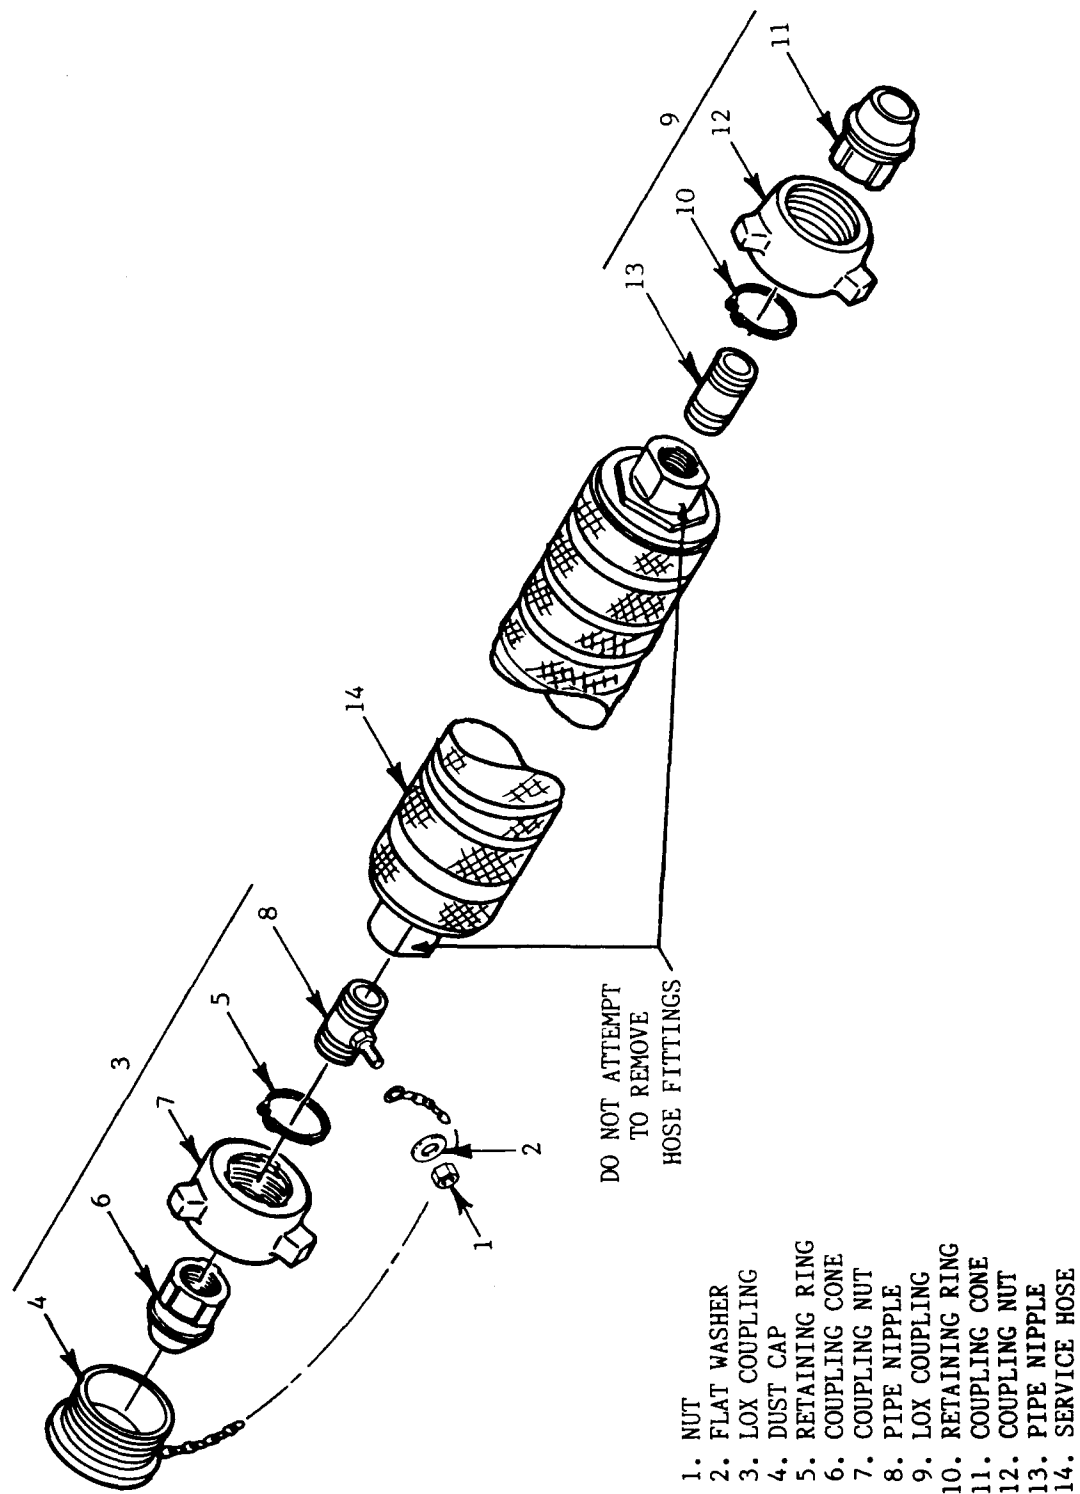

Figure 3-2. Service Hose and Components.
3-2.2.2 Service Hose (SH) and Hardware Disassembly (See Figure 3-2). The service hose provides a means to transfer liquid product from the Tank to a receiving tank. A coupling is installed for liquid oxygen service (right-hand threads) along with a dust cap.